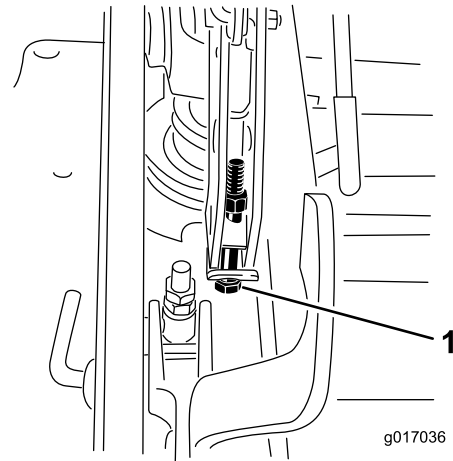

**Figure 90**
12. To adjust the single point system, loosen the 2 bolts at the bottom of the height-of-cut plate. Refer to Figure 90.
14. Torque the 2 bolts at the bottom of the height-of-cut plate (Figure 90) to 37 to 45 N·m (27 to 33 ft·lb).